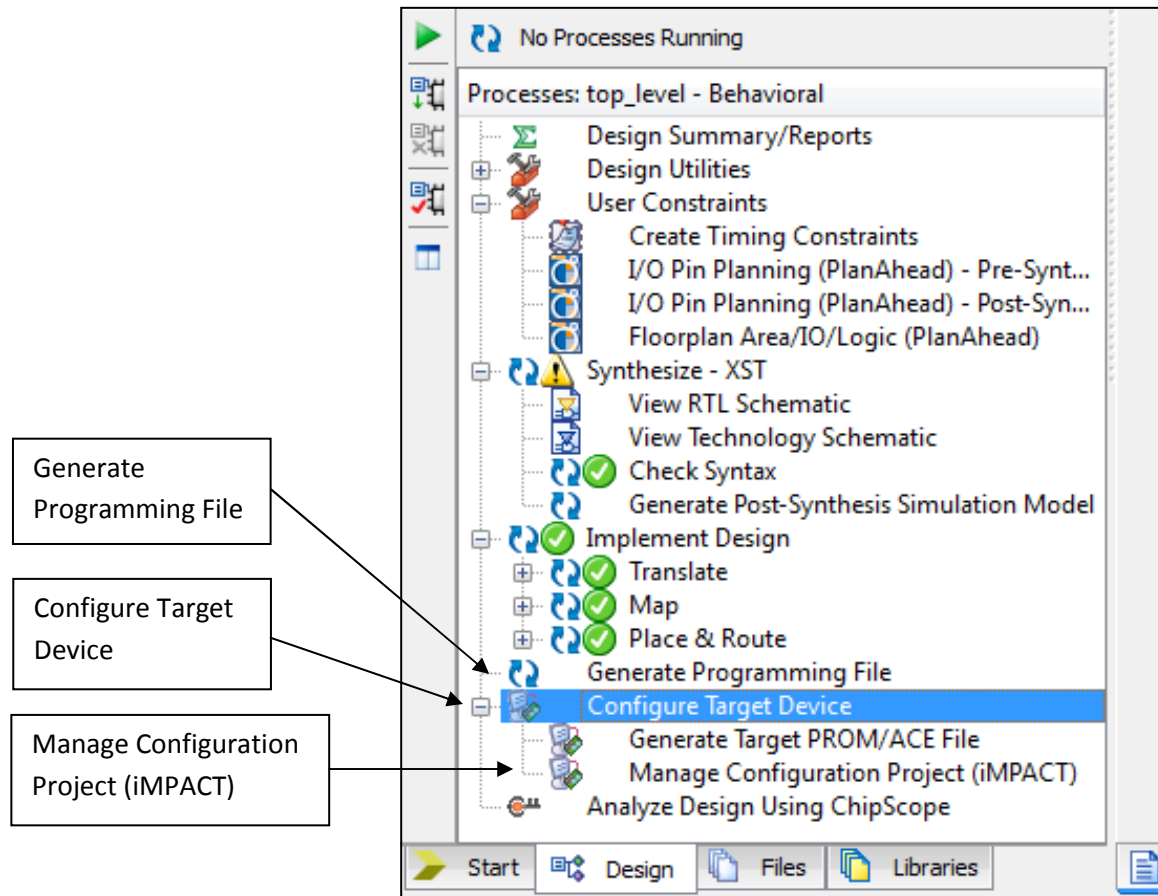

Figure 5.36: Portion of Project Navigator screen, with Implement Design expanded.
1. As shown in Figure 5.36, click on the ‘+’ next to **Configure Target Device**. This will expand out to show the **Manage Configuration Project (iMPACT)** option.